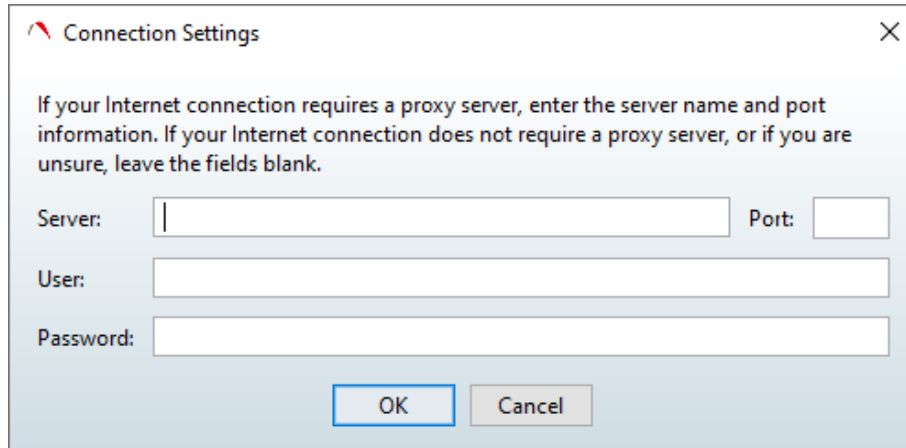

Figure 2-2 Connection Settings Dialog
- If your site internet uses a proxy server, click the **Connection Settings** button and insert **Server**, **Port** and **User** name and Password. Then click **OK**. Figure 2-2 shows an example **Connection Settings** dialog.